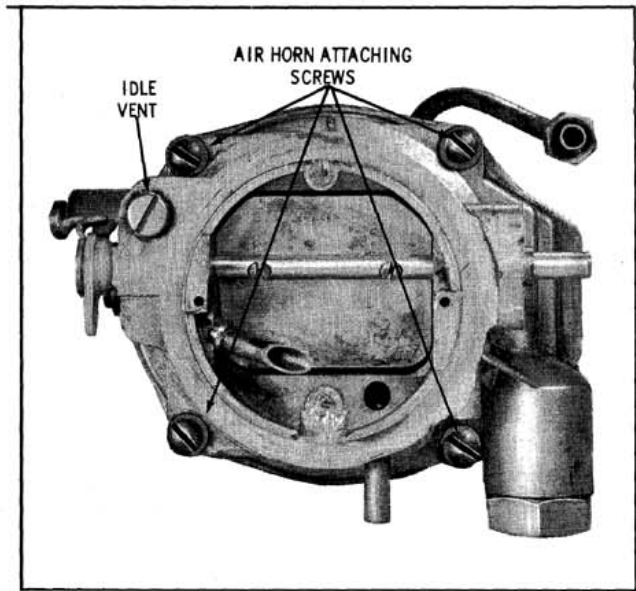

Fig. 4-11 Air Horn Attachment
2. Remove four air horn attaching screws. Lift air horn straight up from bowl so as not to damage float. Place air horn, float side up, on a flat surface. (Fig. 4-11)